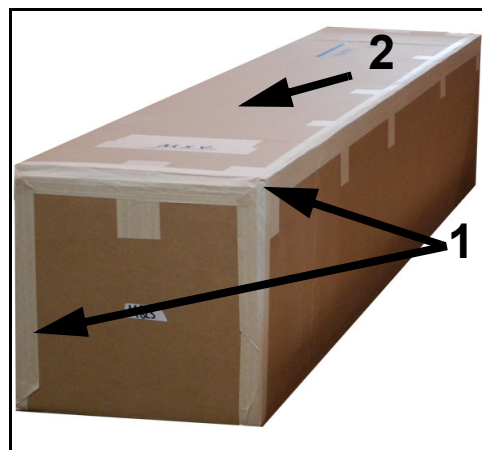

Figure 2-2. Taped Edges
- 2 Cut the tape on the corners of the box (1 in Figure 2-2). Remove the tape and top cover (2).